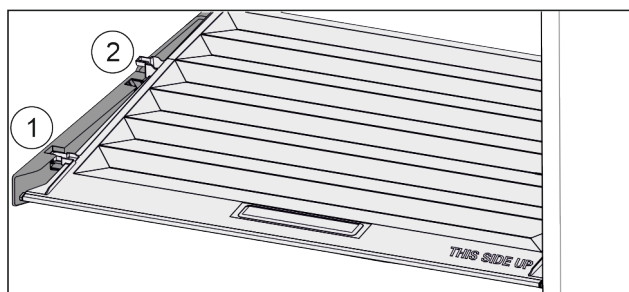

Fig. 124
- Pull the lid up at the front to the opening in the retaining parts Fig. 124 (1).
- Lift from the back and pull it up and out Fig. 124 (2).